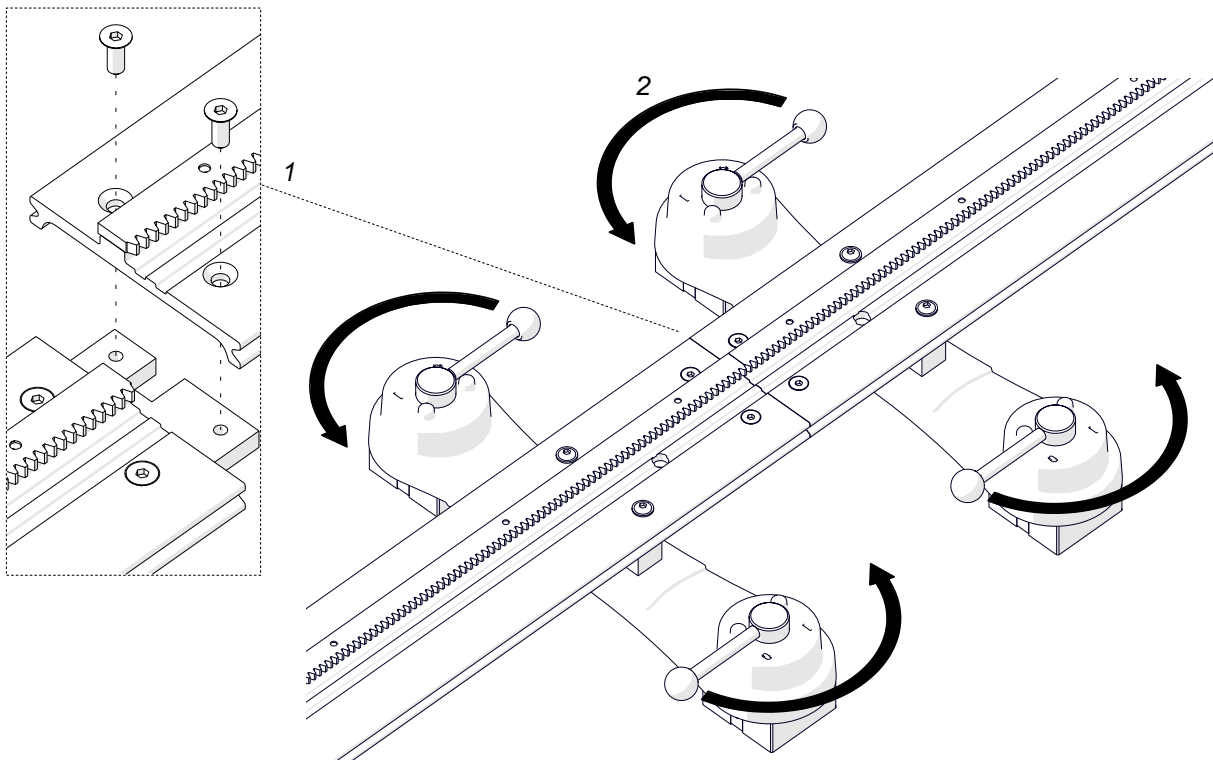

Fig. 1. Connecting the rails and clamping the magnetic units to the surface
Connect magnetic units to the rail, and put it on the workpiece. Use the 4 mm hex wrench to attach more rails (1, Fig. 1). Then, set the levers of the magnetic units to 'I' (2). This will clamp the track to the surface.